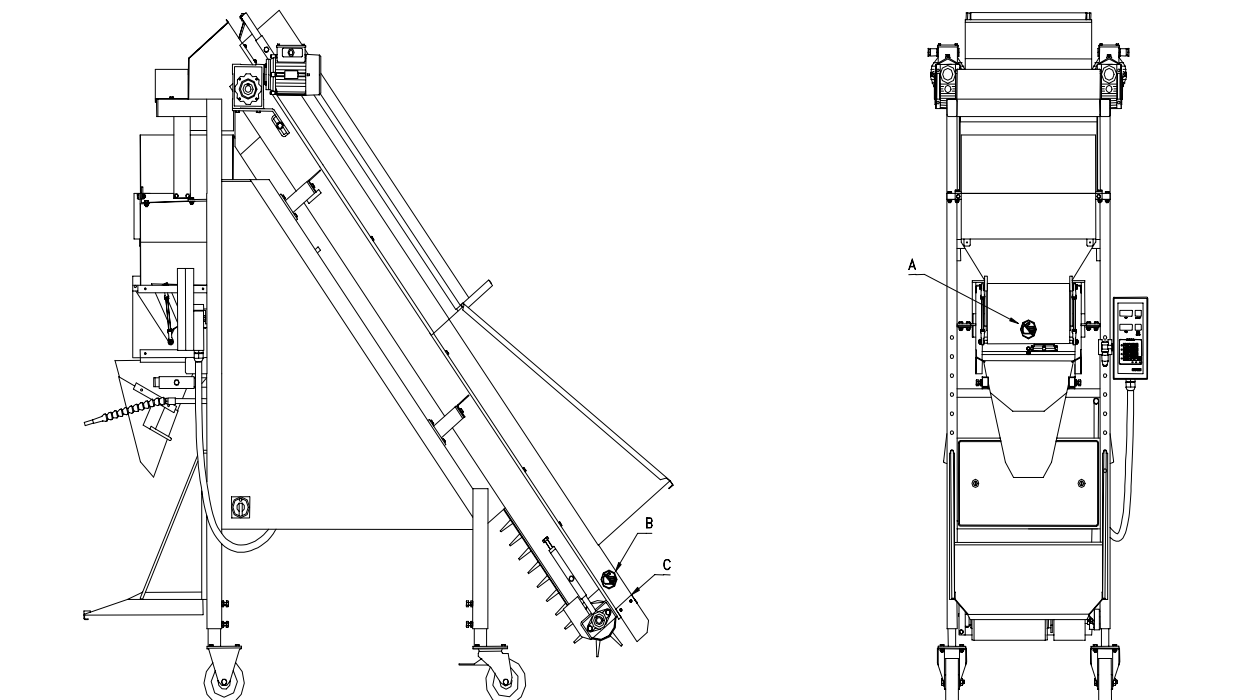

Fig. 2
- 1 Connect power supply to the machine by the cable with a connections plug (The machine use 1-phase 240volt). (fig. 2). Indication light for "off" on keyboard is on.